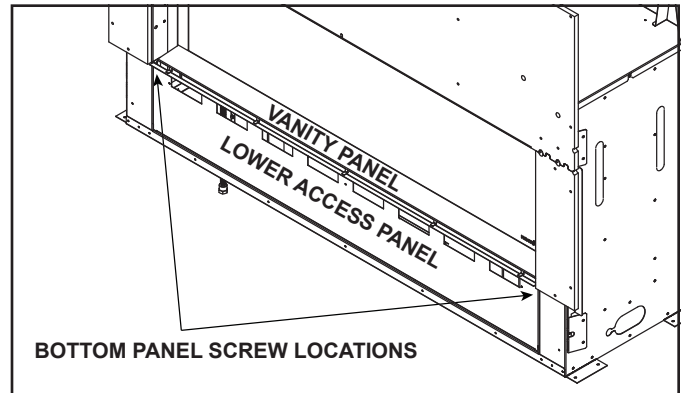

Figure 8.1 Lower Access Panel Location
- ➔ 1. Remove bottom metal panel by removing two screws. Screw locations are shown in Figure 8.1. After removing two screws, gently lift the panel off the appliance avoiding contact with the non-combustible board if possible.